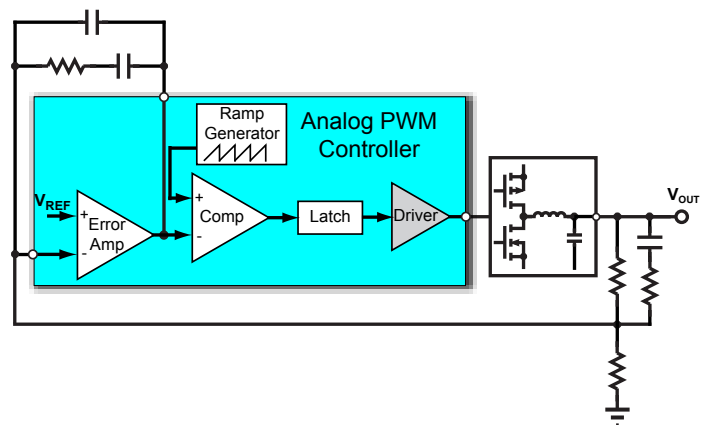

Figure 2.1 : Analog Feedback and Control Loop1
How the power supply IC's feedback and control loop is implemented determines whether the power supply IC is an analog or a digital power IC. A power supply converts a fixed or variable input voltage or current to a fixed output voltage or current. For example, to maintain a fixed output voltage ( $V_{OUT}$ ), a portion of the output voltage is fed back to the control loop and compared with a set point reference; the difference in these two parameters is called the error signal (see Figure 2.1). If any change in the output condition, such as a step change in the output current, causes  $V_{OUT}$  to deviate from its desired output voltage setting then the error signal causes the control loop to either increase or decrease  $V_{OUT}$  until it reaches the pre-set output voltage. The IC accomplishes this by controlling the amount of time the power transistor is on or off. If  $V_{OUT}$  is low then the power transistor stays on longer until  $V_{OUT}$  reaches the pre-set output voltage; conversely if  $V_{OUT}$  is high then the power transistor is off longer until the output is discharged and  $V_{OUT}$  reaches the pre-set output voltage. The modulation of the driver's pulse width as described above is called Pulse Width Modulation (PWM). In an analog power supply, the feedback and control loop is analog as shown in Figure 2.1.
1. Figure 2.1 and 2.2 are copyrighted materials owned by Ericsson AB and its affiliates. They are reproduced by permission with the authorization and courtesy of Ericsson AB.